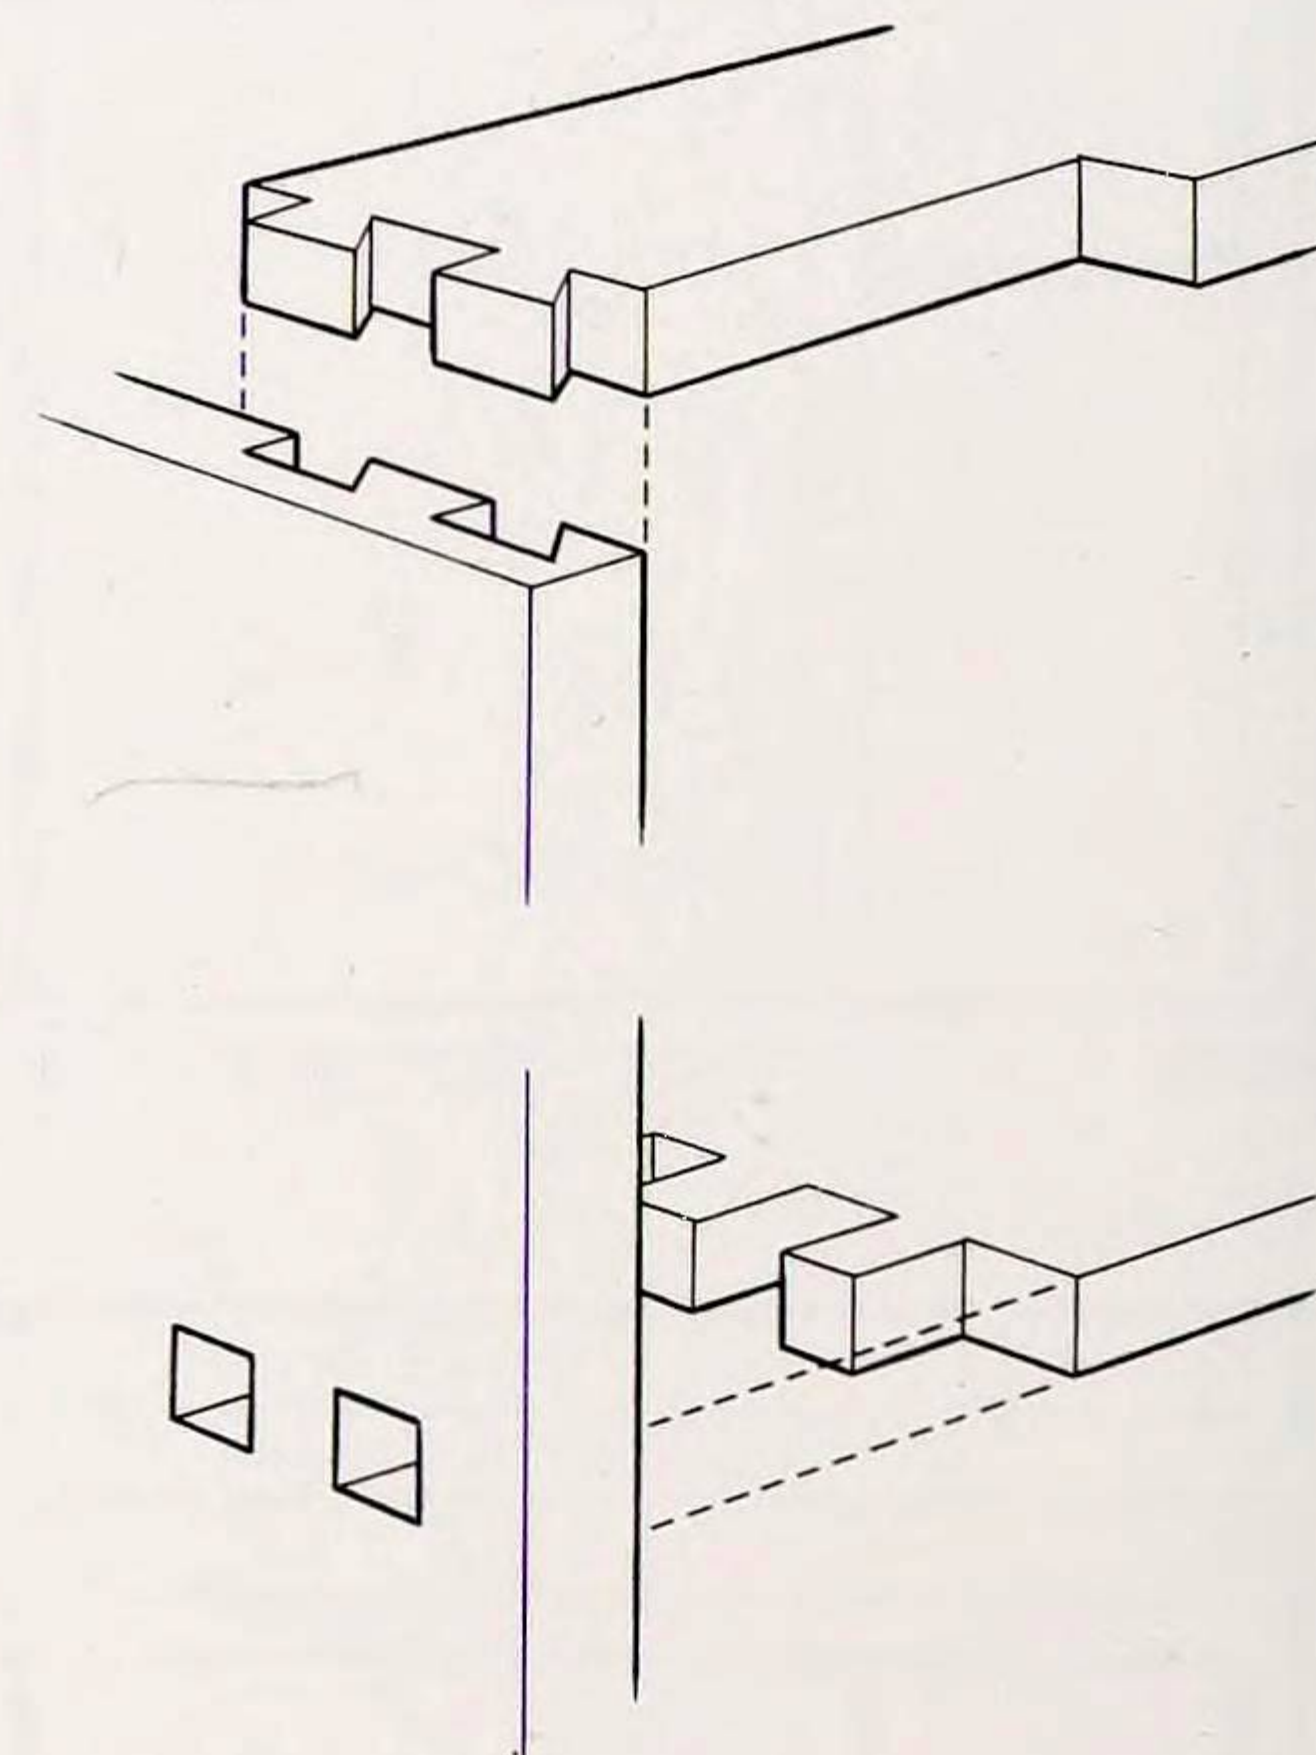

Fig. 2 The top rails are lap dovetailed and the bottom rails tenoned into the sides
2. The joints for these rails can now be made. If you are using solid wood throughout, tenon the bottom cross rail into the sides and use lap dovetails between the two top rails and the top of the sides (Fig. 2). If you are using manufactured board for the three components, it may be better to use tongue and groove, biscuits or dowels.